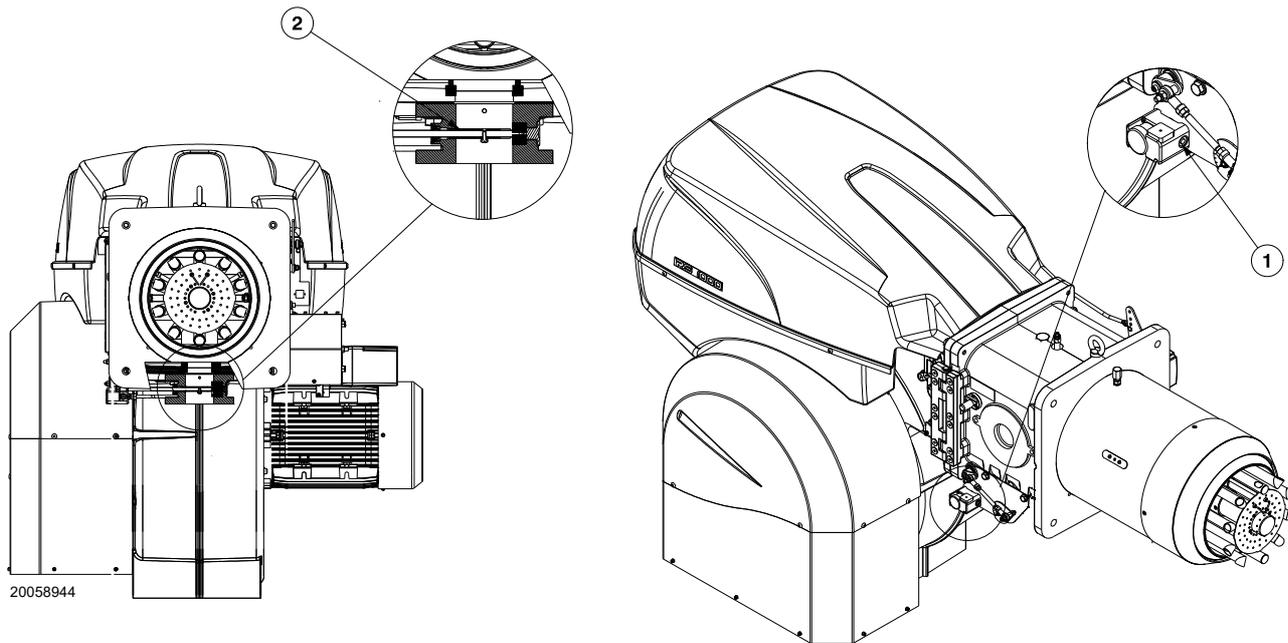

Fig. 22
Gas pressure measured at the test point 1)(Fig. 22), with:
Pressure loss at gas butterfly valve 2)(Fig. 22) with maximum opening: 90°.
- Subtract the combustion chamber pressure from the gas pressure measured at test point 1)(Fig. 22).
Gas pressure at test point 1)(Fig. 22) = 41.9 mbar
To calculate the required gas pressure at test point 1)(Fig. 22), set the maximum modulating output required from the burner operation:
- Read, on the right (column 1), the pressure at the test point 1)(Fig. 22).
Pressure required at test point 1)(Fig. 22).